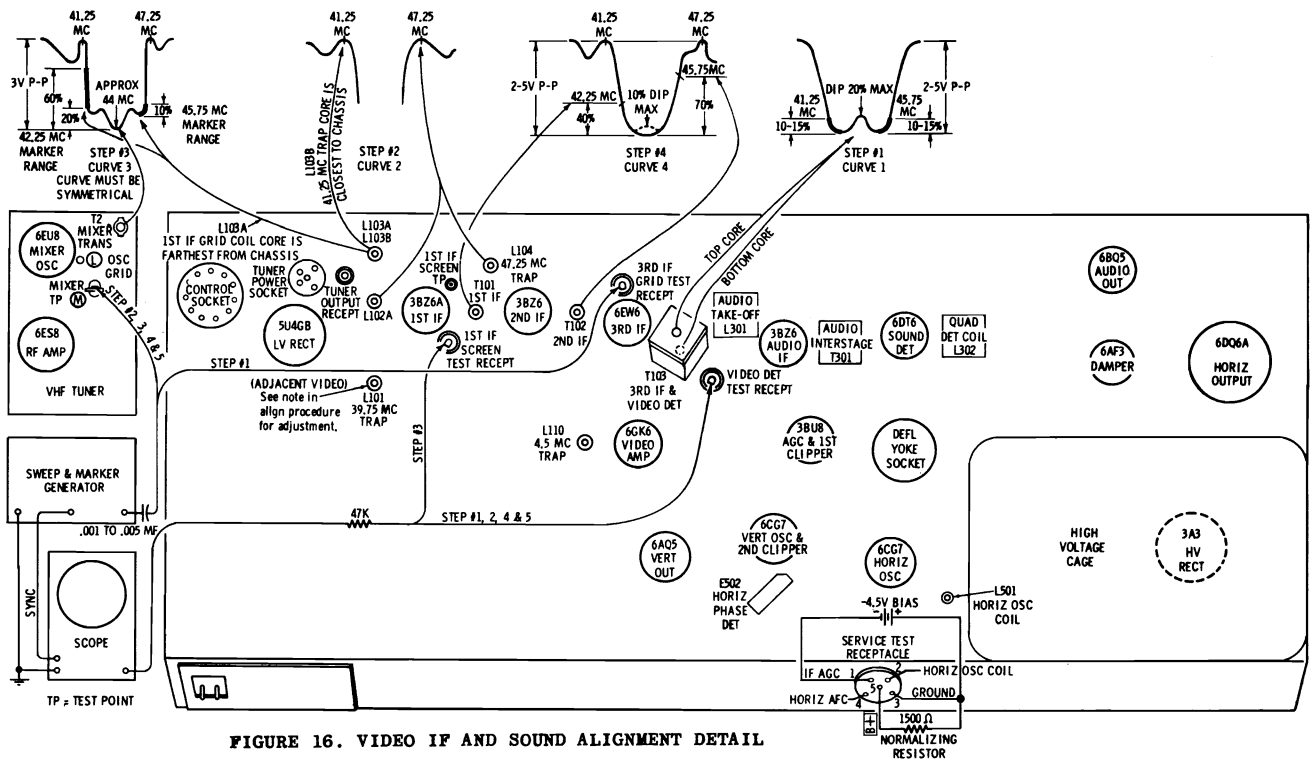

FIGURE 16. VIDEO IF AND SOUND ALIGNMENT DETAIL
3. Disable oscillator by shorting point $\text{\textcircled{L}}$ located near mixer-oscillator tube V-2, to chassis. See Figure 16.
10. Refer to Video IF & Sound Alignment Detail for component and test point locations (Figure 16).
| 2. | To mixer TP thru .001 mf capacitor. (Terminal adjacent to mixer. See Fig 16.) Set sweep to approx. 44 Mc. a. Set marker to 47.25 Mc b. Set marker to 41.25 Mc | Scope connection same as step #1 | a. 47.25 Mc trap (L-102A) b. 41.25 Mc trap (L-103A) | a. Minimum response (tune slug at end of coil away from chassis) b. Minimum response (tune slug at end of coil toward chassis) See curve #2 for above responses. |
| 3. | Generator connection same as step #2, except set output for 3V P-P on scope | Scope to 1st IF plate. "Pin #5 of tube" NOTE: Connect a jumper lead from pin #5 (plate) to pin #6 (screen) of the 1st IF tube when adjusting T-2 and L-103B. | a. Mixer trans, located on tuner (T-2) b. 1st IF grid coil (L-103B) slug located away from chassis | Tune both T-2 & L-103B for curve shown in curve #3, step #3 of Fig. 16. T-2 affects the center peak and L-103B affects the 2 outside peaks. As part of alignment, adjust L-101 for max. Lower frequency about 38.5 Mc (this trap is tuned to 39.75 Mc when evidence of strong adjacent video interference is present) to make sure it does not interfere in the response curve.* Tune both coil slugs at end of coil away from chassis. |
| 4. | Generator connection same as step #2. Re-set for 2-5V P-P on scope. | Scope thru a 47K ohm resistor to Video Det test recept | 1st IF trans (T-101) 2nd IF trans (T-102) | Proper 42.25 Mc marker placement (tune slug at end of coil toward chassis) Proper 45.75 Mc marker placement (tune slug at end of coil toward chassis). See curve #4 of Fig. 16. |
3. Refer to Video IF & Mixer Alignment Detail for coil and test point locations (Figure 16).